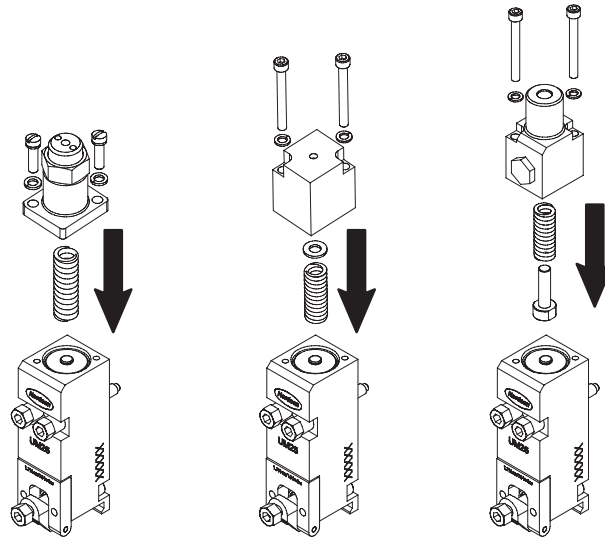

Figure 9-15 Installing the air cap assembly (adjustable, fixed, and OptiStroke air cap assemblies shown)
8. See Figure 9-15. Position a reused (minor rebuild) or new (major rebuild) compression spring inside the air cap assembly, apply anti-seize lubricant to the air cap assembly screws, and install the air cap assembly on the module.